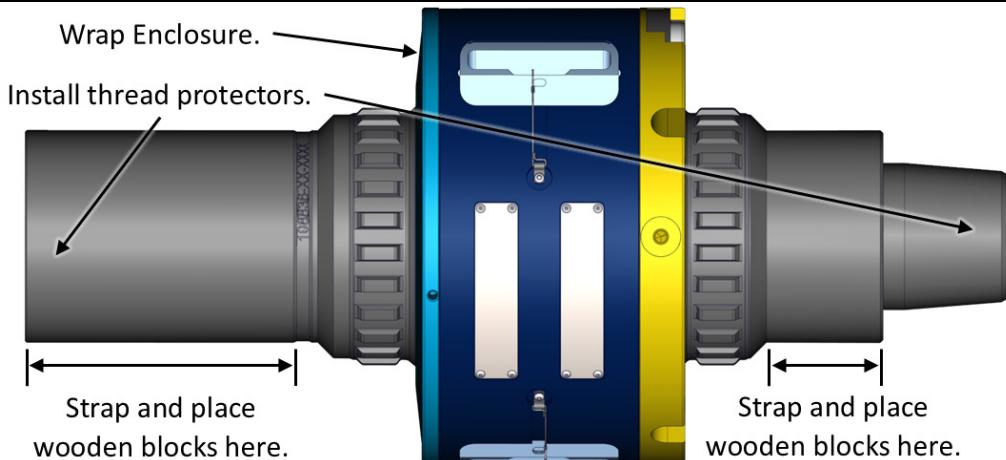

Figure 9-1: TMS Blocked and Strapped
9.1.1.4 Gently lay down the tool on a sturdy base as shown in Figure 9-1 below.